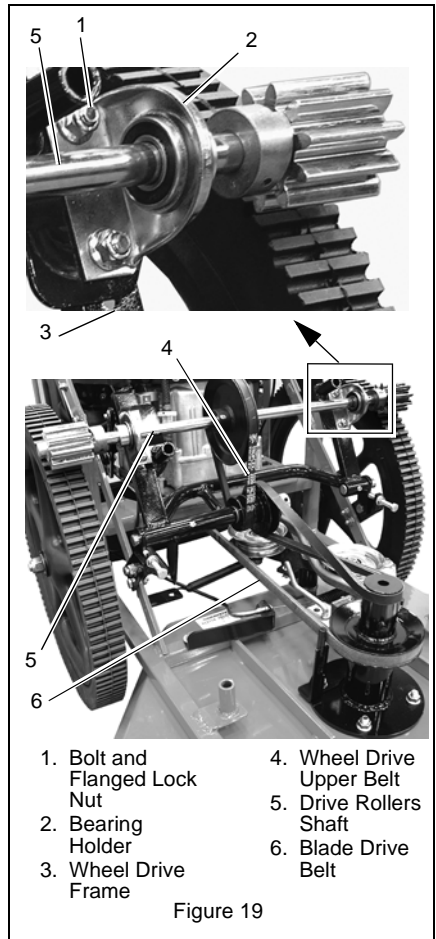

Figure 19
See Figure 19.
- Adjust belt to 30-35 lbs tension. This equates to belt deflection of approximately 0.5 inches measured at the center of the longest belt span (RH side of machine as viewed from operator position). See Figure 19.
5. Twist belt 90° so left side goes to lower side of VS pulley. Also see Figure 19.